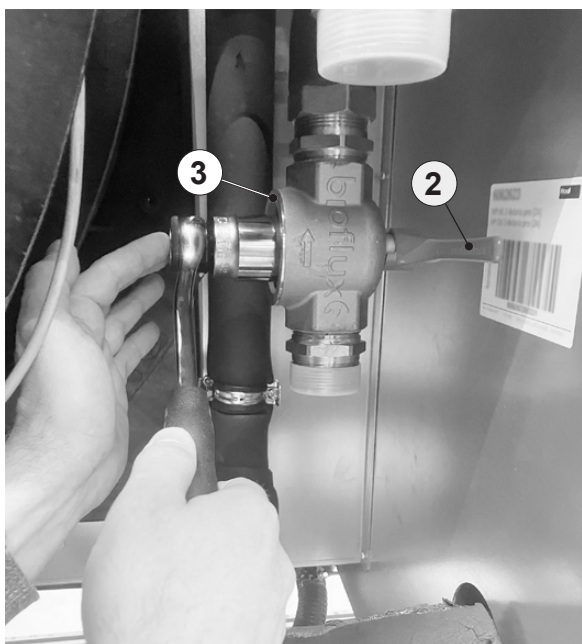

Fig. 16
4. Close the filter ball valve by aligning the wing handle (2, Fig. 16) horizontally.
5. Open the screw connection (3, Fig. 16) on the underside of the filter ball valve.
7. Screw the screw connection (3, Fig. 16) back into the filter ball valve.